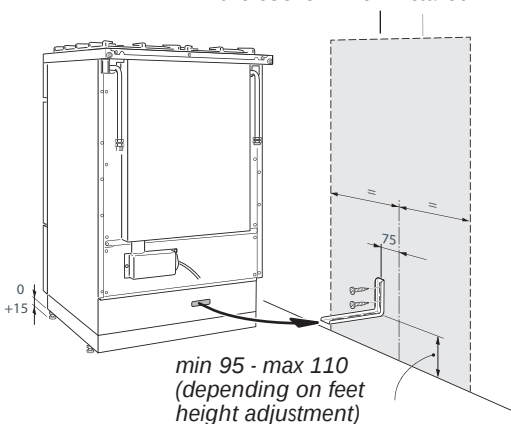

Figure 5a Fitting the anti-tilt bracket
1. After you have located where the cooker is to be positioned, mark on the wall the place where the two screws of the anti-tilt bracket have to be fitted. Please follow the indications given in Fig. 5a.
4. Move the cooker to the wall and adjust the height of the anti-tilt bracket so that it can engage in the slot on the cooker's back, as shown in Fig. 5a.